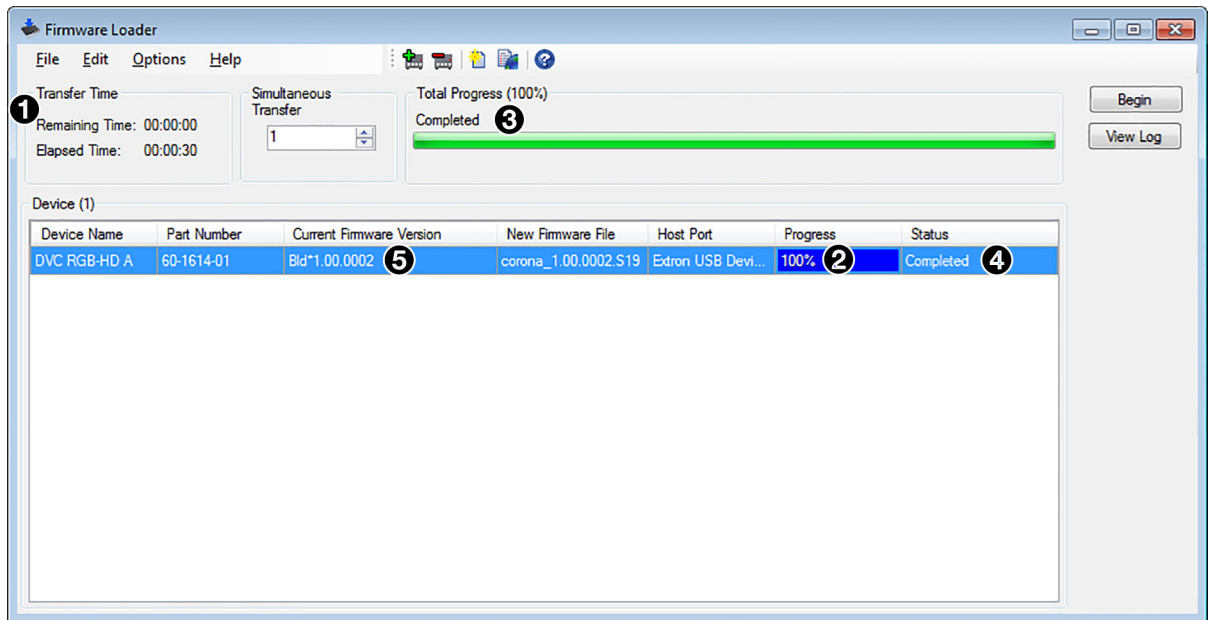

Figure 22. Firmware Upload Complete
12. The upload is complete when the Remaining Time field (see figure 22, ❶) of the Transfer Time panel shows 00.00.00, the Progress column (❷) shows 100%, Completed is displayed above the progress bar (❸) and in the Status column (❹), and the new firmware version is displayed in the Current Firmware Version column (❺).
1. Attach the mounting brackets to the DVC RGB HD with the provided machine screws as shown in figure 22.